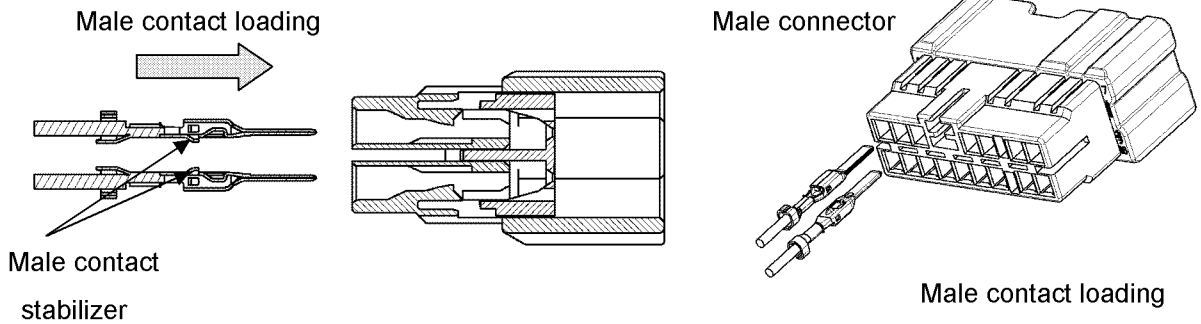

Fig7
2). See Fig.7, 8 for identify of contact stabilizer.